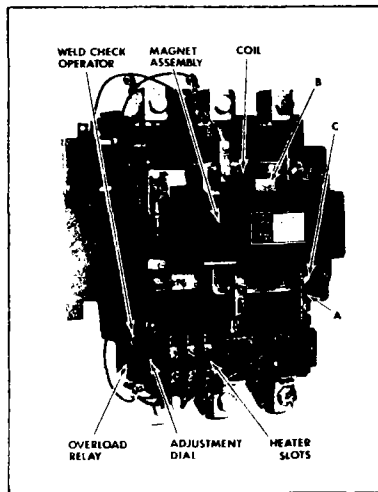

FIGURE 1
2. Pull one end of the spring clip (B - Fig. 1) forward and slide it out of the slot.
4. Loosen 4 coil retainer screws (C - Fig. 1). Press against coil and pull up and out on coil retainers (A - Figure 1).
5. The ultimate tripping current of the installed relay heater can be adjusted the $\pm 10\%$ by using adjustment dial shown in Figure 1.